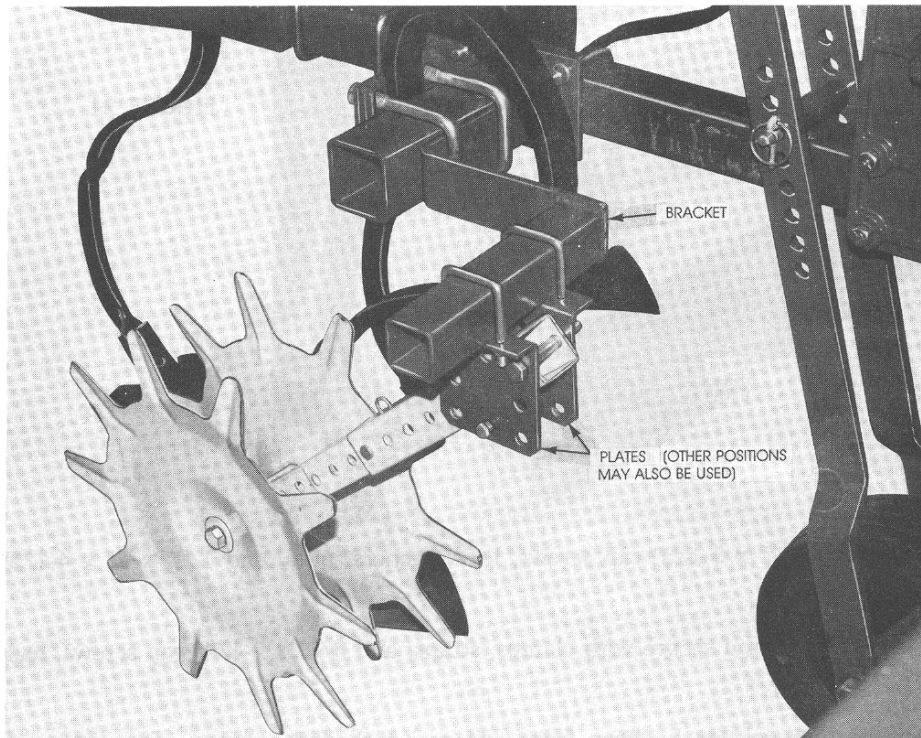

FIGURE 20
1. Clamp the bracket between the shank tube extension and u-bolts. See Figure 20.